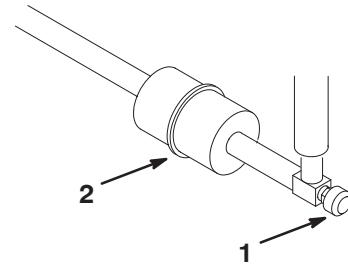

Figure 40
An in-line filter is incorporated into the fuel line between the fuel tank and carburetor (Fig. 40). Replace the filter every 800 hours or sooner if the fuel flow is restricted. Be sure the arrow on the filter is pointing away from the fuel tank.
1. Close the fuel shut off valve, loosen the hose clamp on the carburetor side of filter and remove the fuel line from the filter (Fig. 40).
2. Place a drain pan under the filter, loosen the remaining hose clamp and remove the filter (Fig. 40).